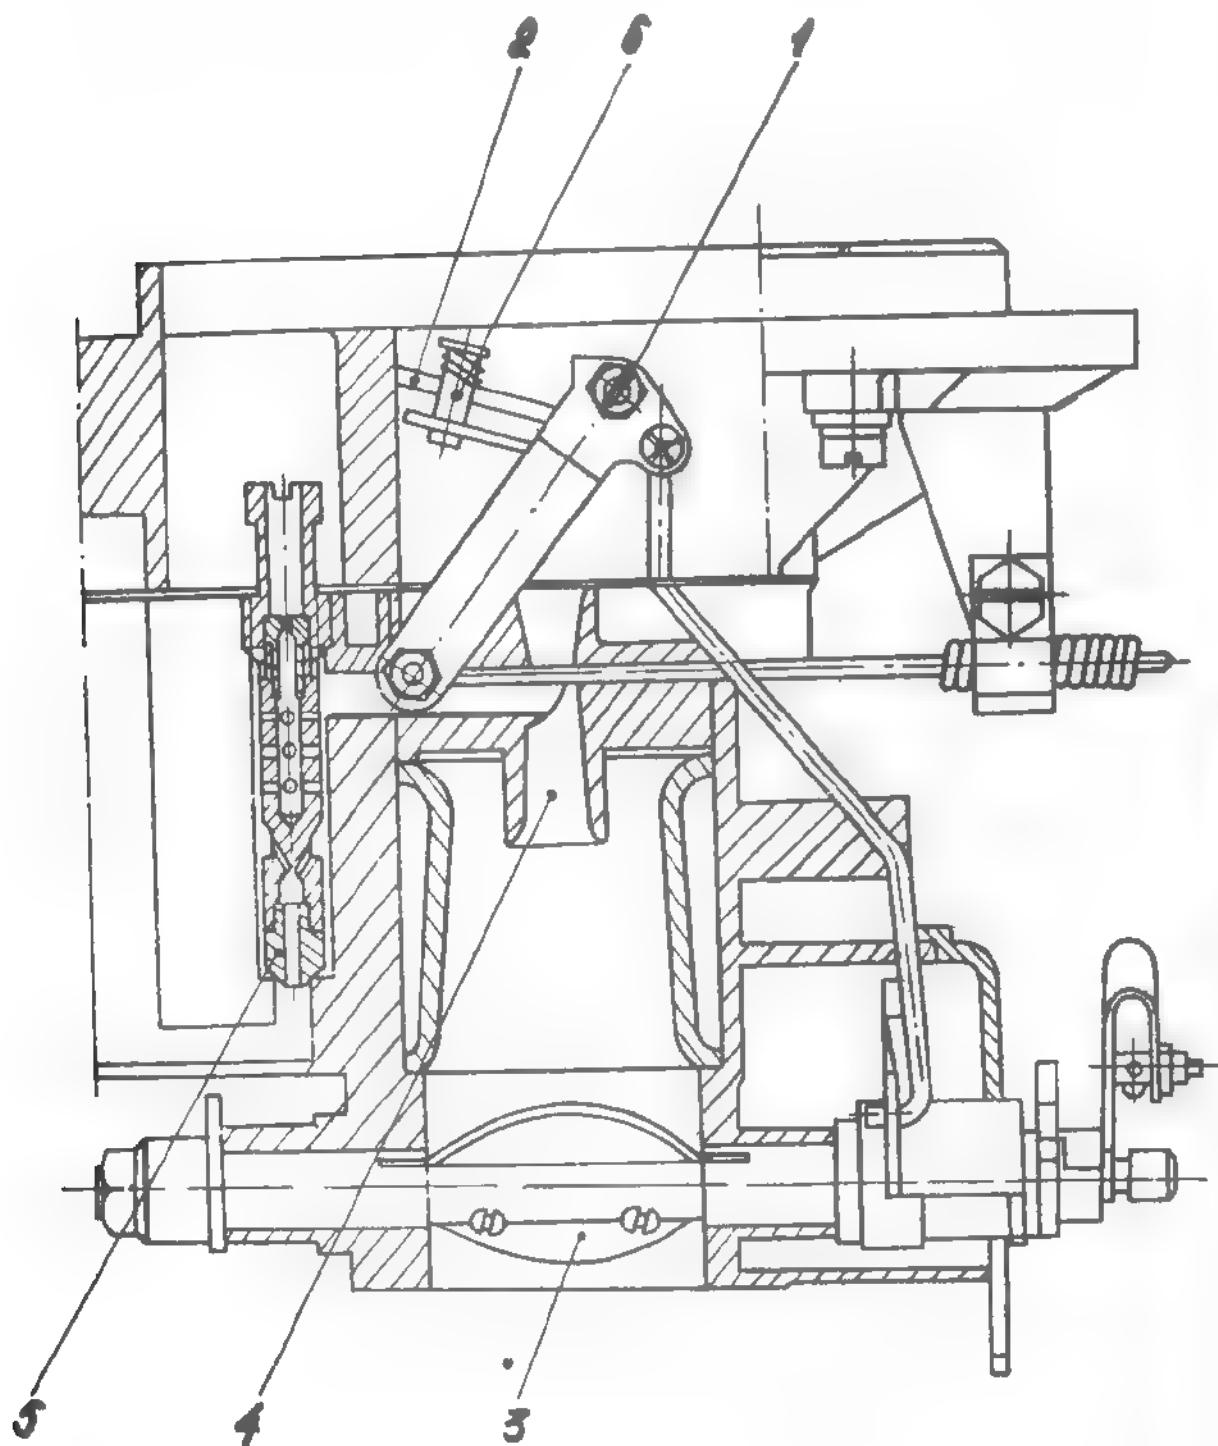

Fig. 4.11. ENGINE STARTING MECHANISM
Pulling the choke, the control lever (1) see. fig. 4.11 rotates the choke valve 2 closing the air access to mixture chamber.
- Check if choke valve is normally opened and if, on a slight depressing of its spring tappet, it opens more (see fig.4.11, tappet (6)).
- Check if on rotating the choke shaft (1) the valve oscillate correctly, closing its inlet, in its position "Choke pulled".